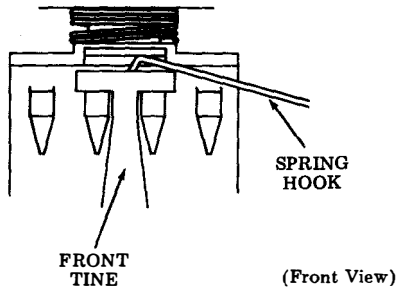

Fig. 12—Front Tine Disengagement
(3) Continue applying upward pressure to the RETURN key and disengage the front tine from housing using a spring hook. Remove keytop with housing from channel (Fig. 12).